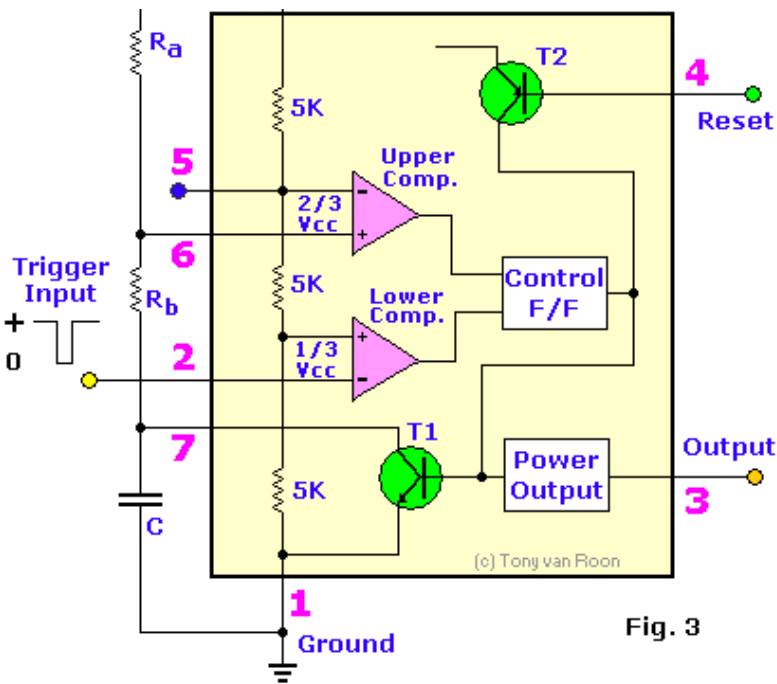

Fig. 3
Inside the 555 timer, at fig. 3, are the equivalent of over 20 transistors, 15 resistors, and 2 diodes, depending of the manufacturer. The equivalent circuit, in block diagram, providing the functions of control, triggering, level sensing or comparison, discharge, and power output. Some of the more attractive features of the 555 timer are: Supply voltage between 4.5 and 18 volt, supply current 3 to 6 mA, and a Rise/Fall time of 100 nSec. It can also withstand quite a bit of abuse.
**Pin 3 (Output):** The output of the 555 comes from a high-current totem-pole stage made up of transistors Q20 - Q24. Transistors Q21 and Q22 provide drive for source-type loads, and their Darlington connection provides a high-state output voltage about 1.7 volts less than the V+ supply level used. Transistor Q24 provides current-sinking capability for low-state loads referred to V+ (such as typical TTL inputs). Transistor Q24 has a low saturation voltage, which allows it to interface directly, with good noise margin, when driving current-sinking logic. Exact output saturation levels vary markedly with supply voltage, however, for both high and low states. At a V+ of 5 volts, for instance, the low state Vce(sat) is typically 0.25 volts at 5 mA. Operating at 15 volts, however, it can sink 200mA if an output-low voltage level of 2 volts is allowable (power dissipation should be considered in such a case, of course). High-state level is typically 3.3 volts at V+ = 5 volts; 13.3 volts at V+ = 15 volts. Both the rise and fall times of the output waveform are quite fast, typical switching times being 100nS. The state of the output pin will always reflect the inverse of the logic state of the latch, and this fact may be seen by examining Fig. 3. Since the latch itself is not directly accessible, this relationship may be best explained in terms of latch-input trigger conditions. To trigger the output to a high condition, the trigger input is momentarily taken from a higher to a lower level. [see "Pin 2 - Trigger"]. This causes the latch to be set and the output to go high. Actuation of the lower comparator is the only manner in which the